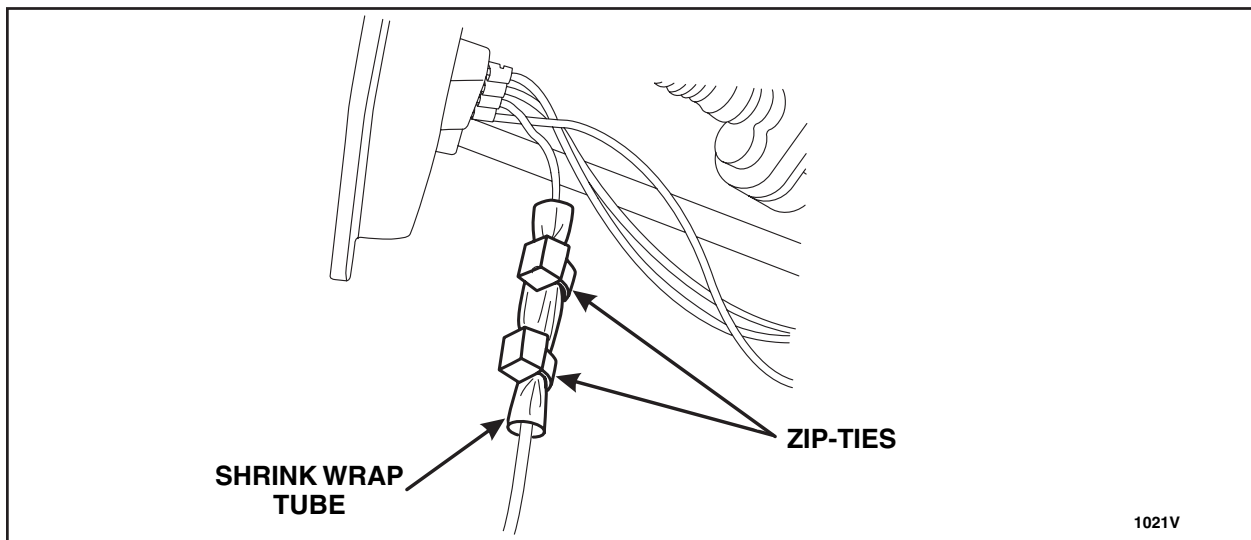

FIGURE 13
32. Slide *new* shrink wrap tube over the *new* fuel level sender yellow wire connection. Secure the *new* shrink wrap tube with 2 zip-ties, 1 above and 1 below the fuel level sender yellow wire connection, close to the wire crimp area. Pull the zip-ties tightly to ensure the connection will stay insulated and trim the tail end of the zip-ties. See Figure 13.